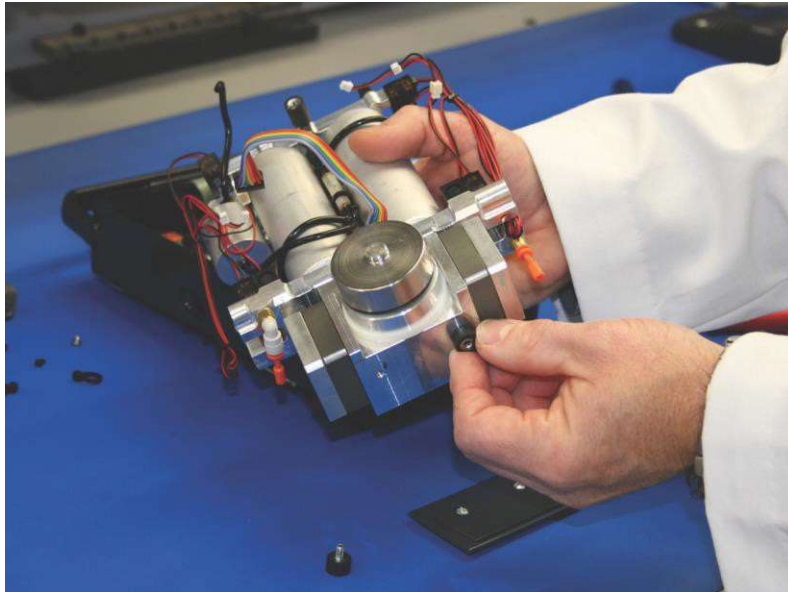

Figure 5.15
16. Remove the two mounts from the compressor. (See Figure 5.15.)